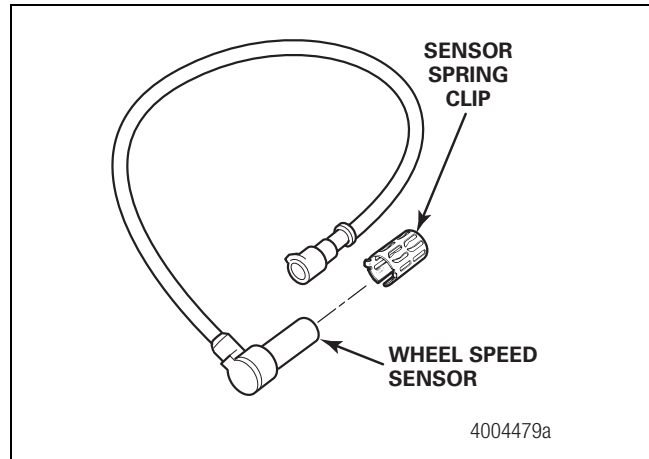

Figure 4.63
5. Remove the sensor spring clip. Figure 4.63.